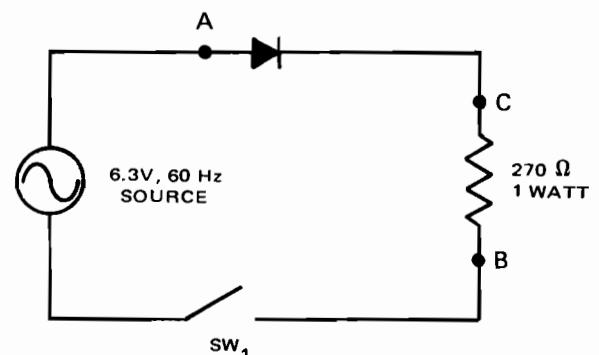

Fig. 15-1-1
1. Construct half-wave rectifier circuit as shown in Fig. 15-1-1.